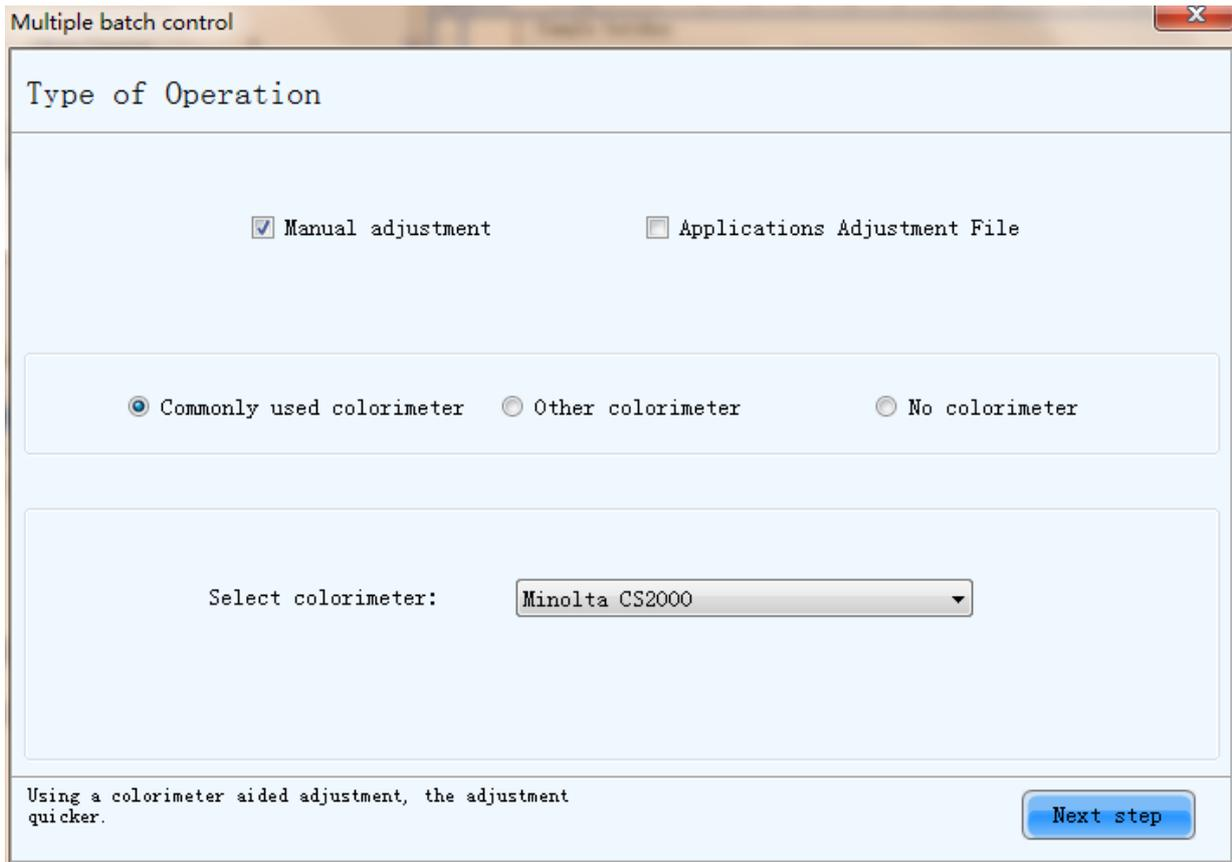

Fig. 7-4 Select colorimeter information
- 1) Check "Manual adjustment" if not using the adjustment file, as shown in Figure 7-4. Select a colorimeter connected to the system. If the system does not connect with the colorimeter, tick "No colorimeter" and then click "Next".